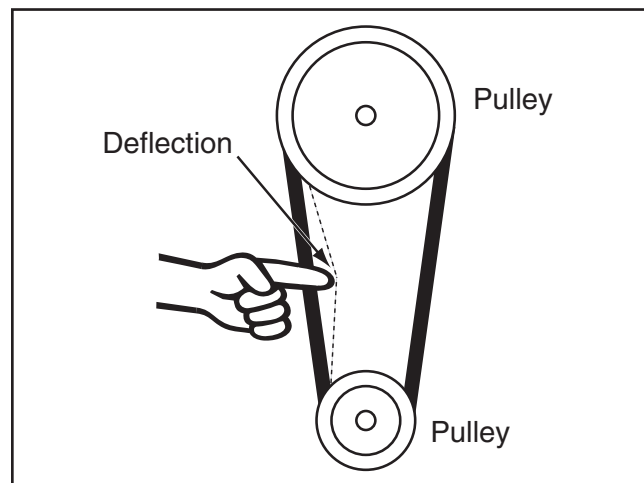

Figure 101. Checking for correct V-belt deflection.
3. Open the change gear cabinet and check the V-belt tension. When moderate pressure is applied to the V-belts between the pulleys, there should be approximately $\frac{1}{2}$ " of belt deflection (see **Figure 101**).